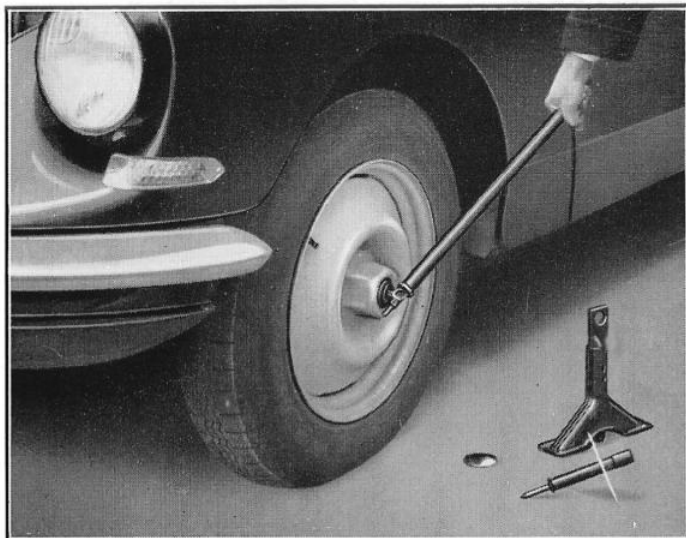

Figure 12
- Unlock the centre screw of the wheel using the long lever. (This lever (fig. 11) is fitted on the crossmember carrying the spare wheel). Use it as shown on fig. 12. At this stage only unlock the screw, do not unscrew it.
- **Firmly tighten** the centre screw of the wheel using the long lever in the position shown on fig. 12.